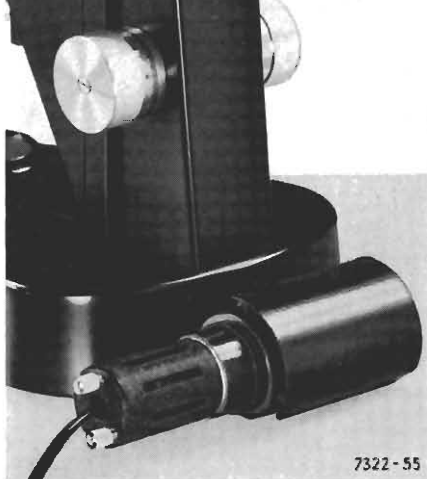

Fig. 4
5. For observations in monochromatic light a sodium vapour lamp can be fitted to the stand foot instead of the normal lamp unit (fig. 4).